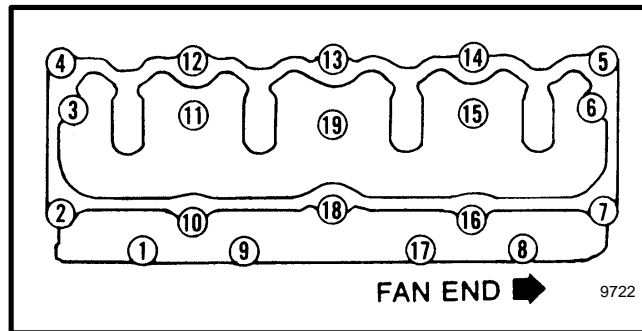

FIGURE 10. LOOSENING SEQUENCE FOR REMOVAL OF THE CYLINDER HEAD
14. Loosen the cylinder head bolts in two or three steps in the sequence shown in FIGURE 10. Do not completely loosen the bolts during the first sequence. Lift the cylinder head from the engine block.